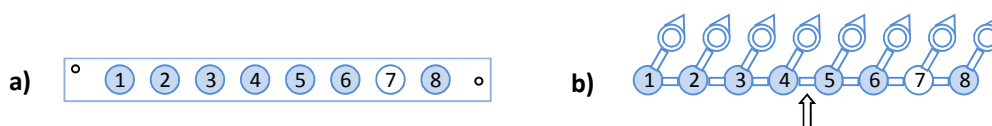

Figure 3. Orientation of qPCR tubes in 8-tube strips.
- Add 2 µL cDNA reaction to each of the 7 tubes containing 23 µL qPCR master mix (tube 1-6 and 8). Tube number 7 is empty and is used for orientation of the 8-tube strip, see figure 3.